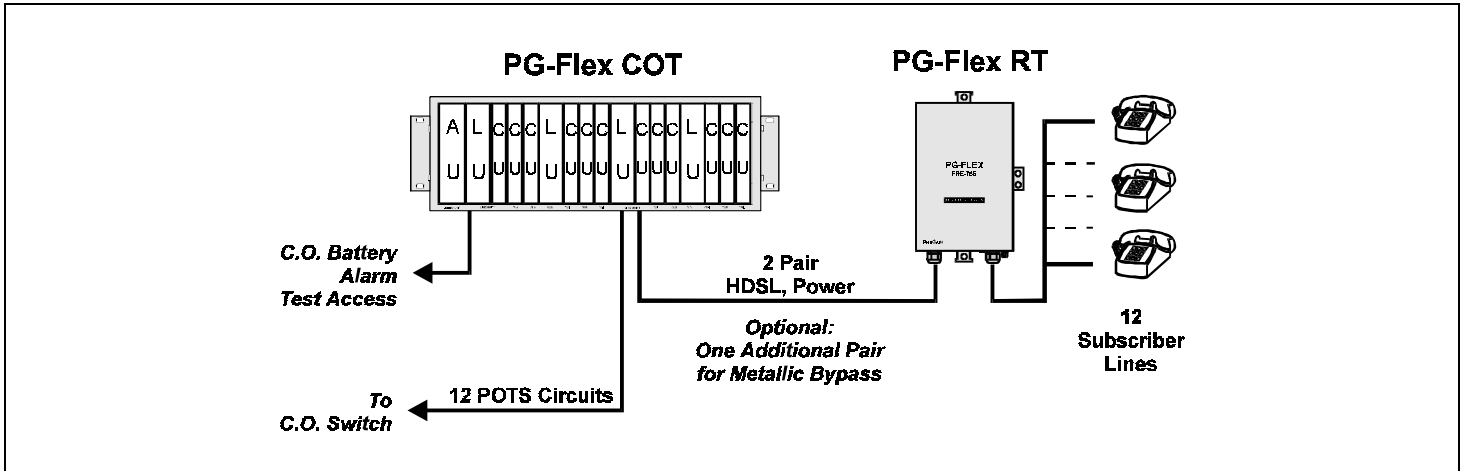

Figure 2. Typical PG-Flex Configuration.
2.02 System Flex Configuration. A PG-Flex system, shown in Figure 2 consists of:
2.05 For the system configuration depicted in Figure 2, the maximum distance between the COT and the RT is 12.3 kft (3.8 km), assuming the HDSL lines are 24 gauge. Table 1 shows the maximum distance between the COT and RT for various gauge wire. Due to the nature of HDSL transmission technology, the HDSL lines do not require any special conditioning and may include unterminated bridge taps, but cannot include load coils.